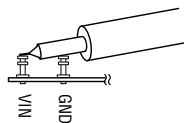

Figure 2. Measuring Input/Output Ripple
**NOTE.** When measuring the output voltage ripple, care must be taken to avoid a long ground lead on the oscilloscope probe. Measure the input or output voltage ripple by touching the probe tip directly across the Vin or Vout and GND terminals. See Figure 2 for proper scope probe technique.